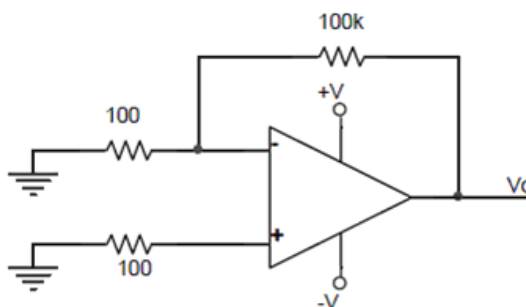

FIG.1 Input offset voltage measurement.
- Connect the circuit as shown in Figure 1.